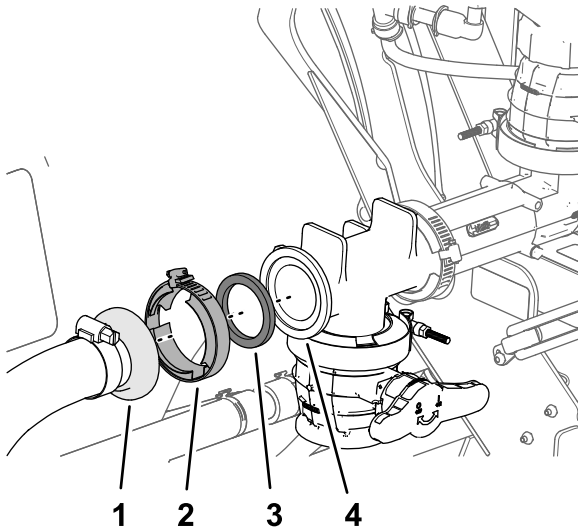

Figure 30
7. Attach the straight-barb fitting of the eductor hose assembly to the flange of the T-fitting for the eductor using a gasket and flange clamp, and tighten the clamp by hand (Figure 30).